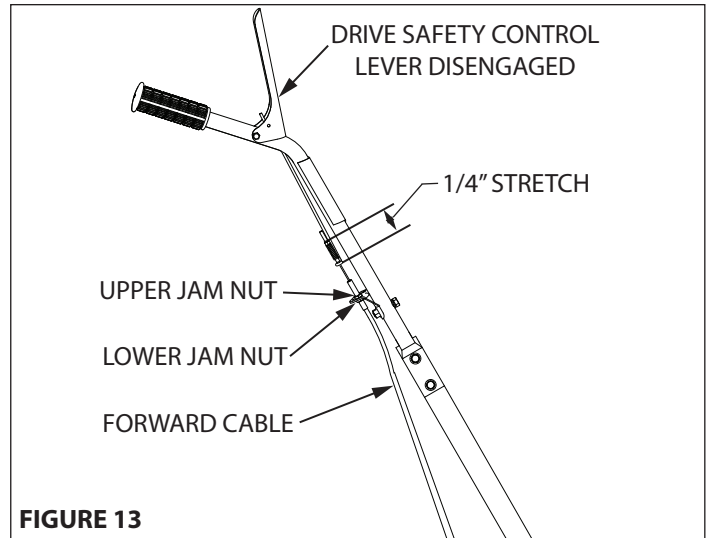

FIGURE 13
4. Pull down on drive safety control lever and measure length of spring when compressed. Ideal length would be 1/4" shorter. **SEE FIGURE 13**